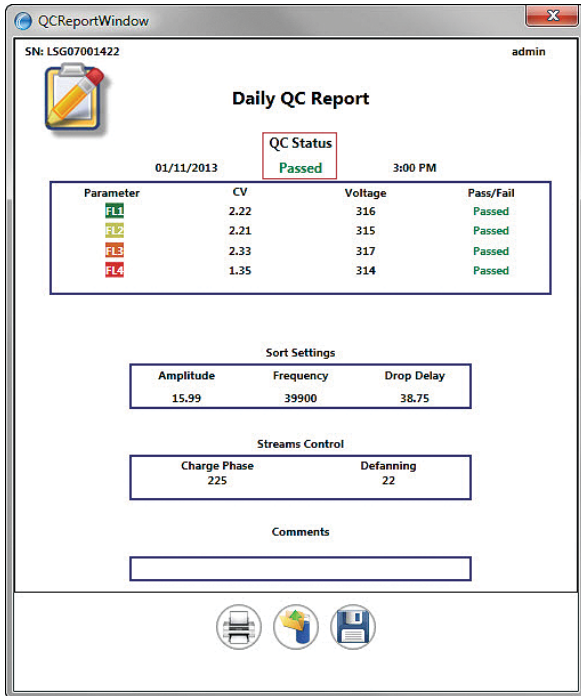

Fig. 4. QCReportWindow with passing QC Status.
6. The QCReportWindow will appear with a passed/failed QC Status (Figure 4).